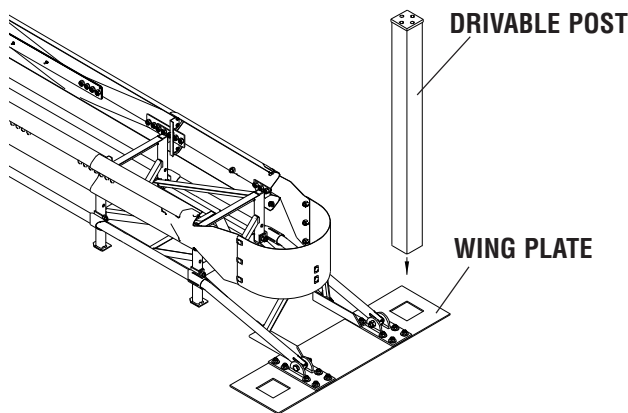

Figure 17
2. Once system is in place, position pile driving equipment over a square hole in the outboard wing plate as shown in Figure 17.
3. Place the 72 3/4"x6"x6" Drivable Post into the square hole in the wing plate as shown in Figure 17. Use a small level to ensure the post is straight for pile driving. Drive post into the ground until the post's top plate is flush with the top of the wing plate.